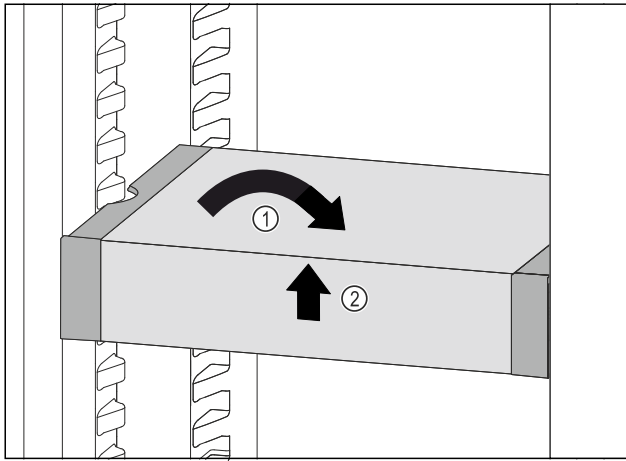

Fig. 103
- ▶ Set VarioSafe straight. Fig. 103 (1)
- ▶ Lift VarioSafe at the front. Fig. 103 (2)